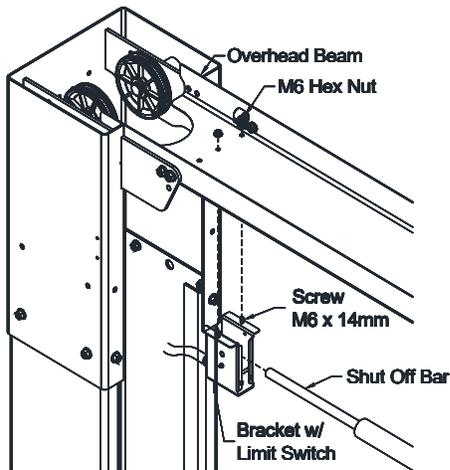

Fig. 9a – Overhead Limit Switch Power Side
- 21) Install overhead limit switch to the overhead beam using the rear set of holes on the power side of the lift. Fig. 9a.